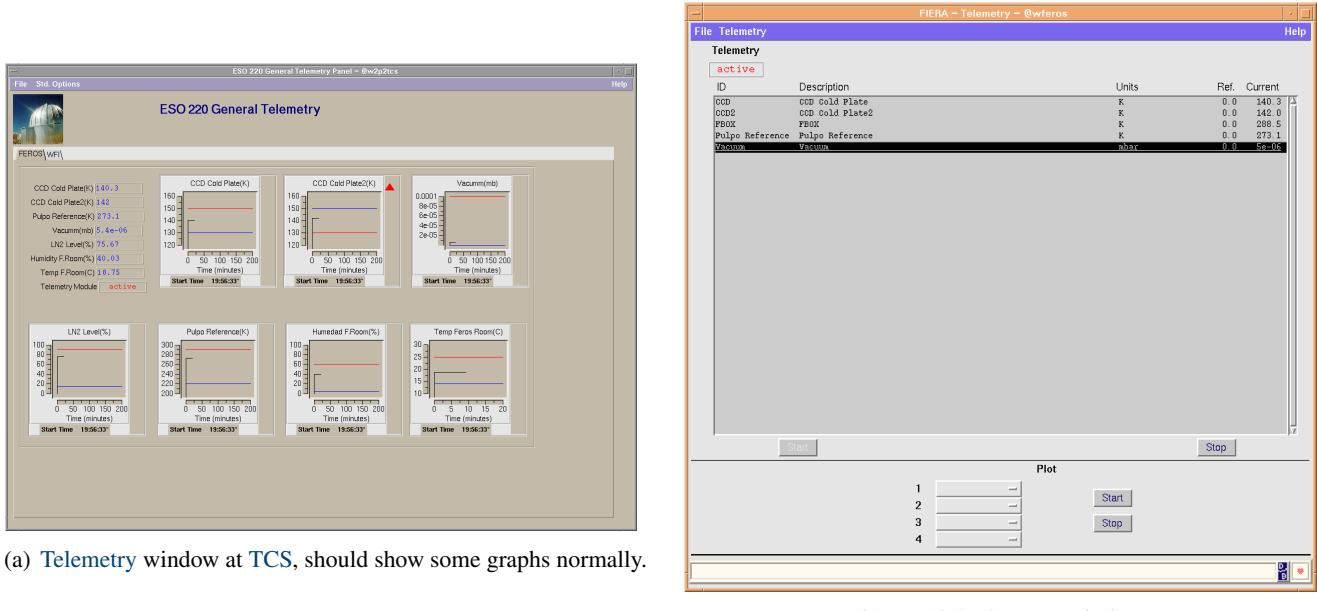

Figure 10.4: Telemetry window.
- There is a problem with the FEROS **telemetry** at TCS (window should show some graphs, Fig. 10.4(a), p. 80).